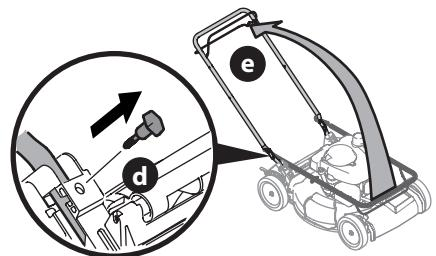

Figure 2
- Remove T-bolts (d) from the handle brackets (Figure 2).
- While stabilizing mower so it doesn't move, pivot upper handle (e) up (Figure 2). Do not crimp blade or drive control cables while lifting the handle up.